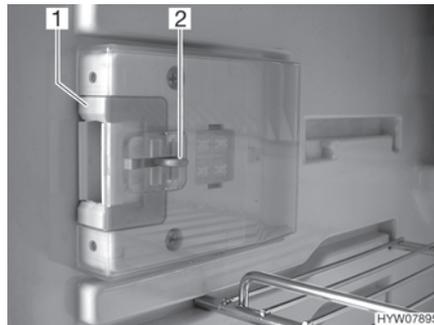
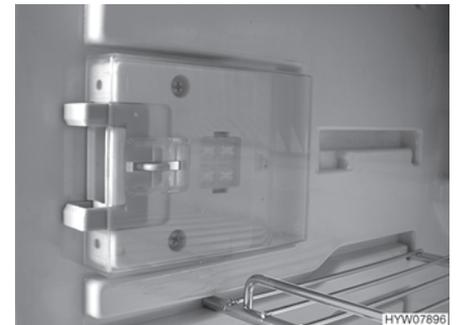

Fig. 187 Locking device (normal position)
Fig. 188 Locking device (ventilation position)
- Press down the unlatching device (Fig. 187,2).
- Push locking device (Fig. 187,1) forwards (Fig. 188).